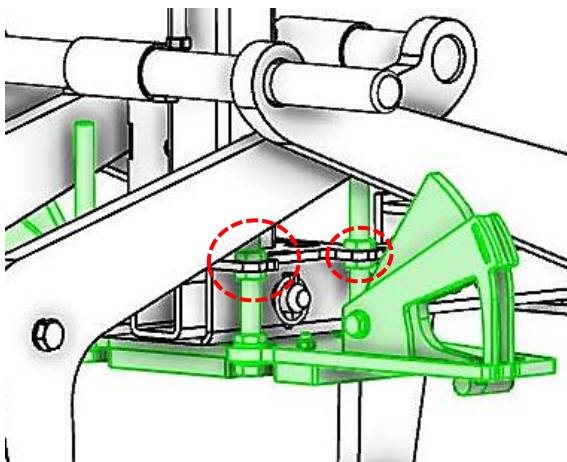
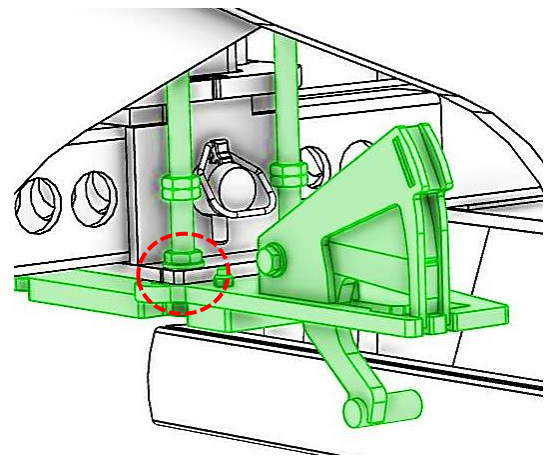

Fig. 4
Fig. 5
- Depending on the device type, the upper nuts on the screws must be removed to mount the SAFETY-INDICATOR correctly (Fig. 4/ Fig. 5).